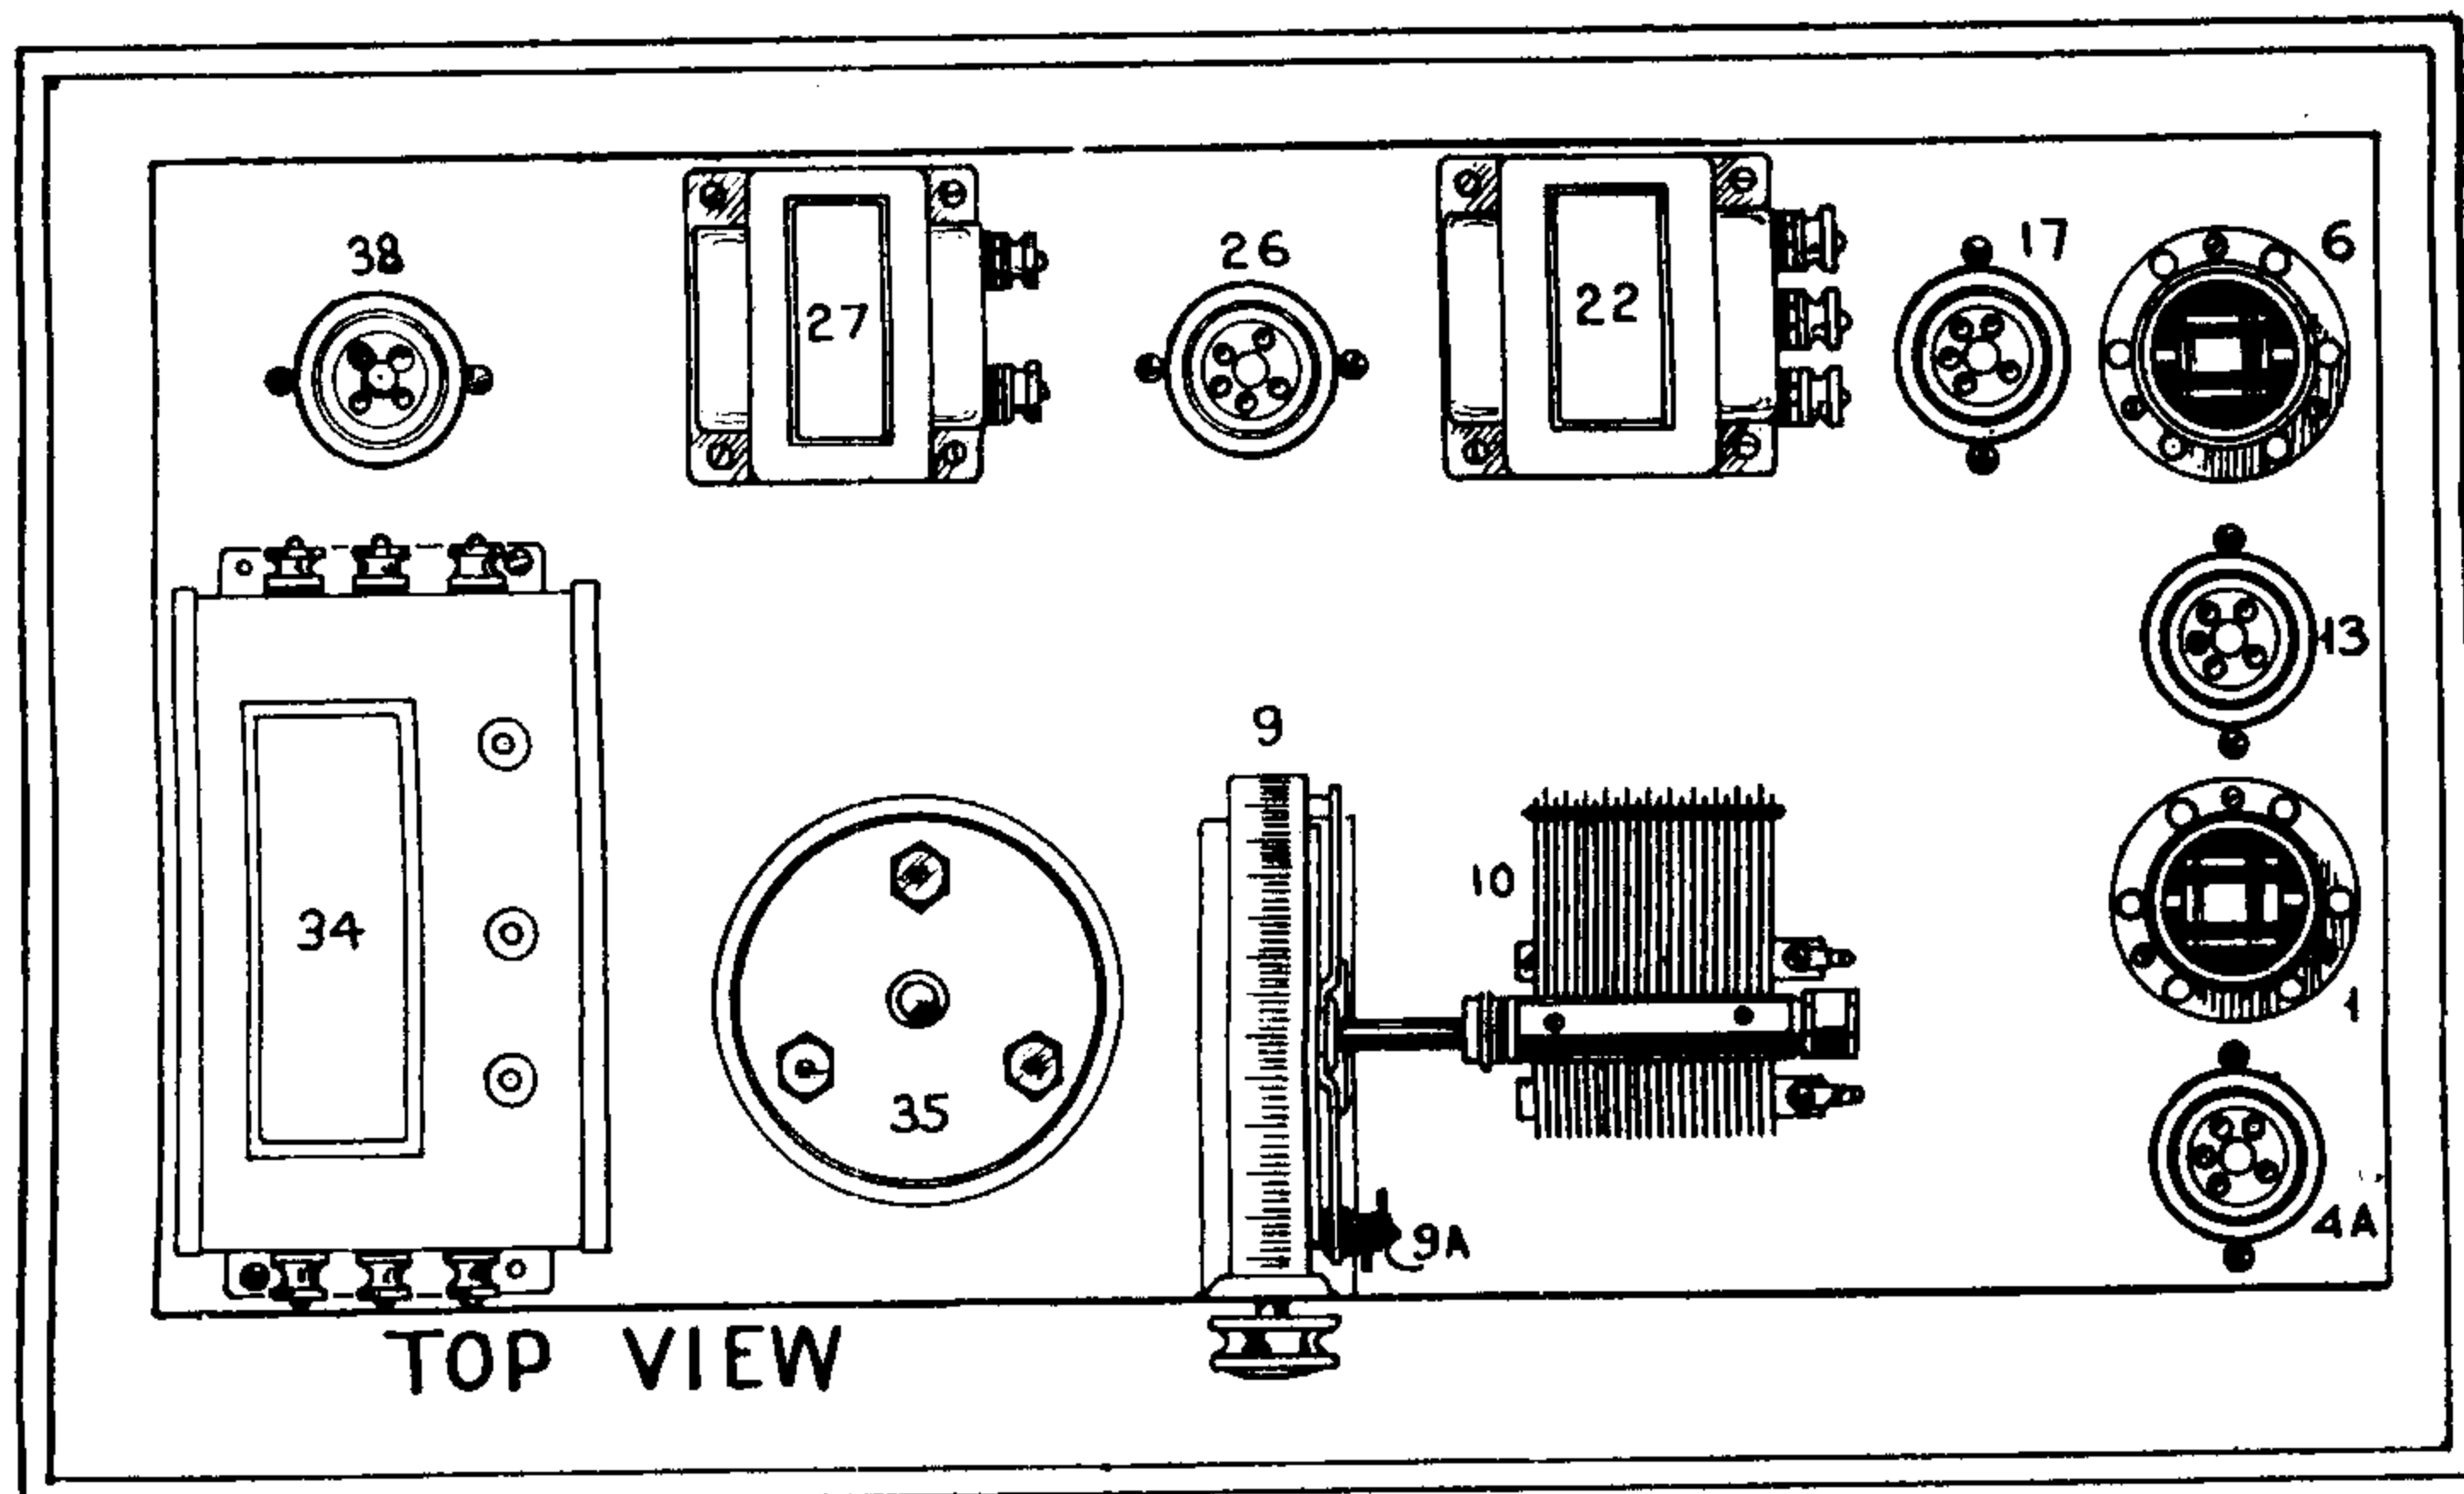

Fig. 4
After mounting the various parts below the deck of the chassis, the latter is turned right-side up; and the drum dial and the variable condenser are mounted (Fig. 4). The dial's base fits into the slot cut into the chassis, thus bringing the center of the drum level with the shaft of the variable condenser; a hole is drilled in the front support of the chassis for the drive-shaft. The two audio chokes (22) and (27) and the power pack (34) are mounted next; then the block condenser (35) and, finally, the coil sockets (1) and (6).